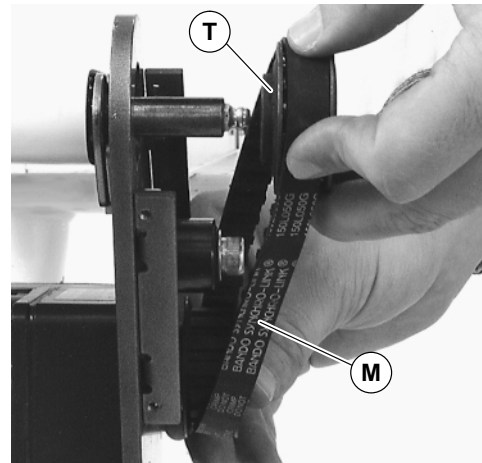

Figure 17
NOTE: If timing belt does not slide over pulley flange, loosen driven pulley set screws (T of Figure 17) and remove pulley with belt (M). For re-installation, see steps 5 through 8 on page 5.